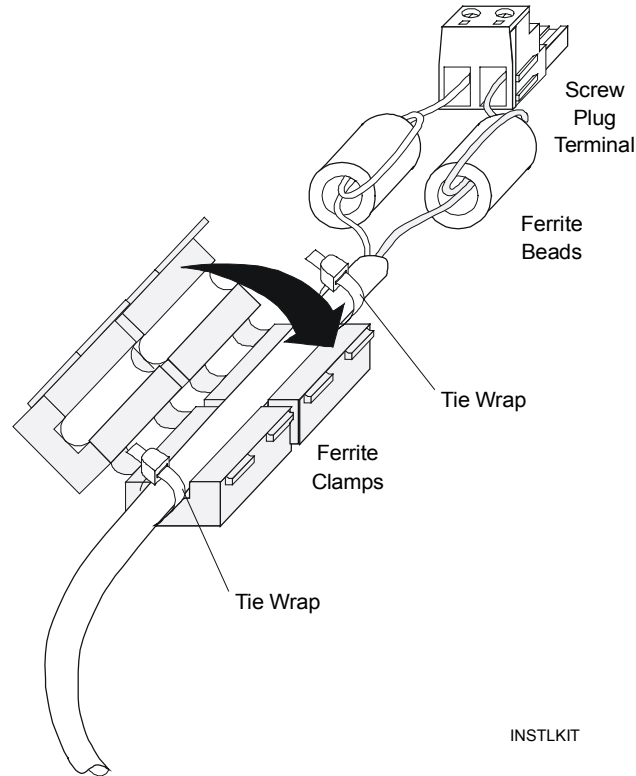
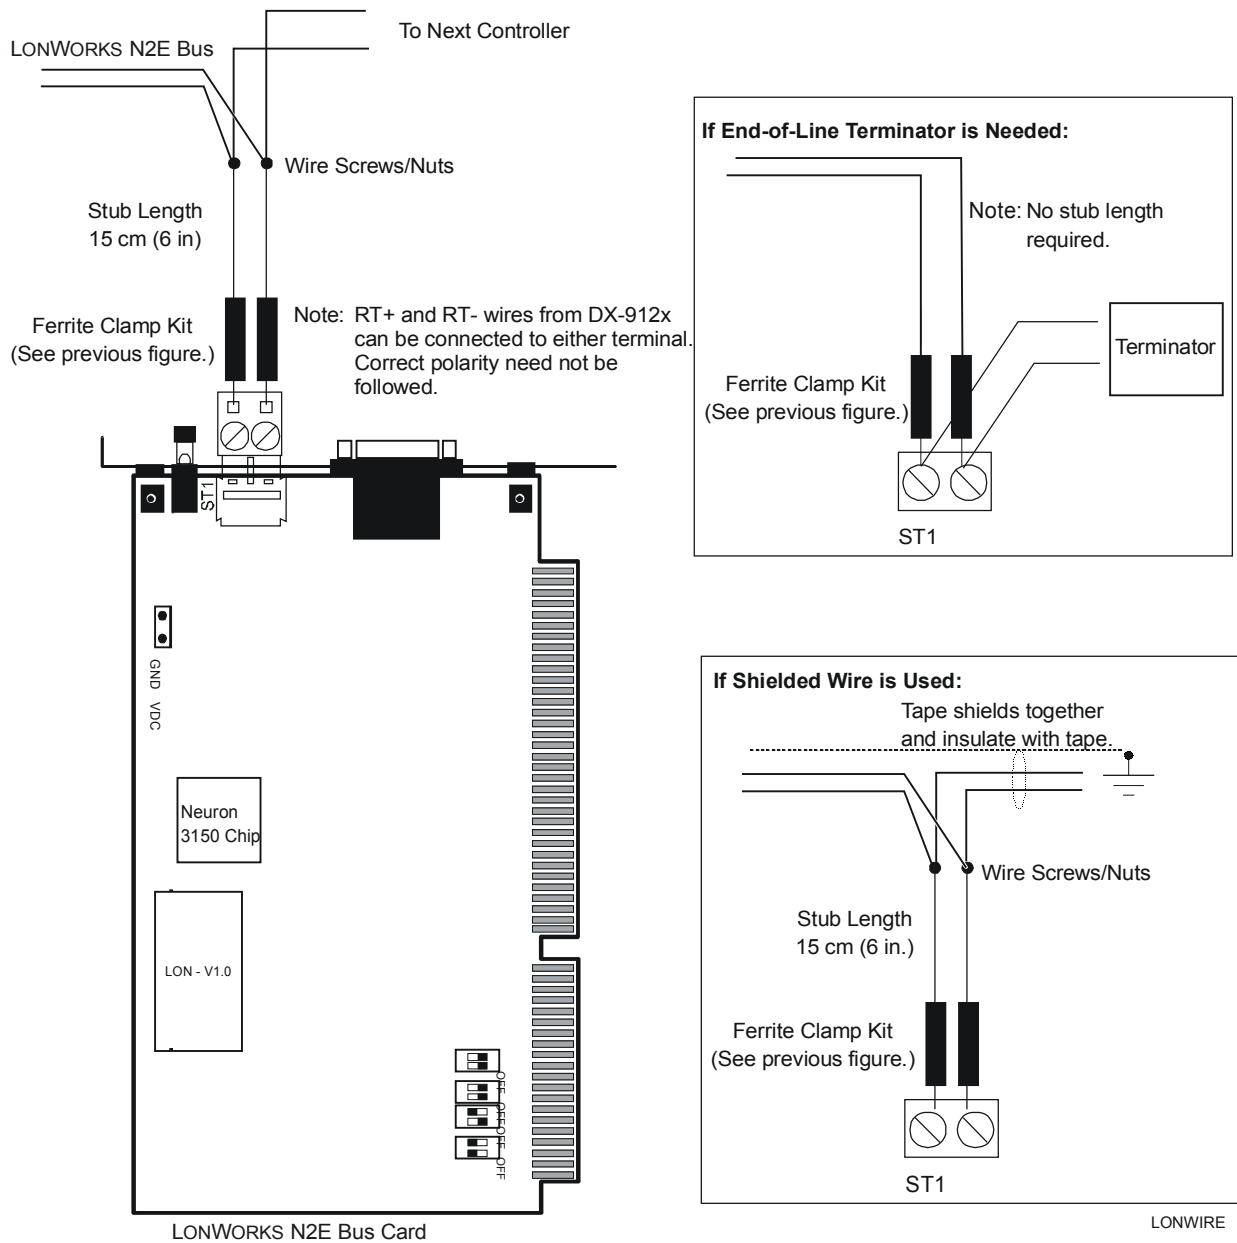

Figure 10: Ferrite Clamp Installation
Figure 11: Connecting the NCM350/361 to the Bus
The LONWORKS N2E Bus is connected to the NCM350/361 at its LONWORKS N2E card. A ferrite clamp kit is provided with the card. This kit contains two clamps, two beads, and two tie wraps that must be properly installed onto the N2 Bus wire to meet FCC and CE Mark emission requirements. Refer to Figure 10 and Figure 11.
Note: If a longer stub length is required, up to 3 meters (10 feet) is allowed. Also, if the NCM350/361 you are connecting is at the end-of-line, a stub length is not needed. See Figure 11.
3. Referring to Figure 10, install the ferrite clamps, beads, and tie wraps to the stub length. Note that each wire is looped once around the small beads before it is connected to the screw plug terminal. The tie wraps keep the two large ferrite clamps from slipping off the wire. Cut off the excess length of tie wrap.
5. Using standard wire screws or nuts, connect the free end of the stub length to the N2E Bus wires that lead to the other controllers (Figure 11).